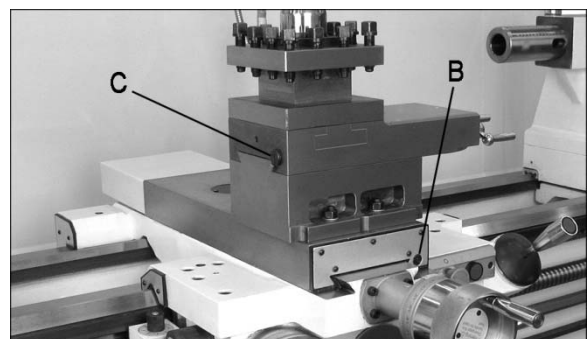

Figure 37 – Gib adjustments, slide and rest
**Cross Slide** – Gib screws are located at front and rear of slide opposite to one another (B, Figure 37). To adjust drag, loosen rear gib screw
**Compound Rest** – Gib screws are located at front and rear of the compound rest (C, Figure 37). To adjust, use the same method as for the Cross Slide.